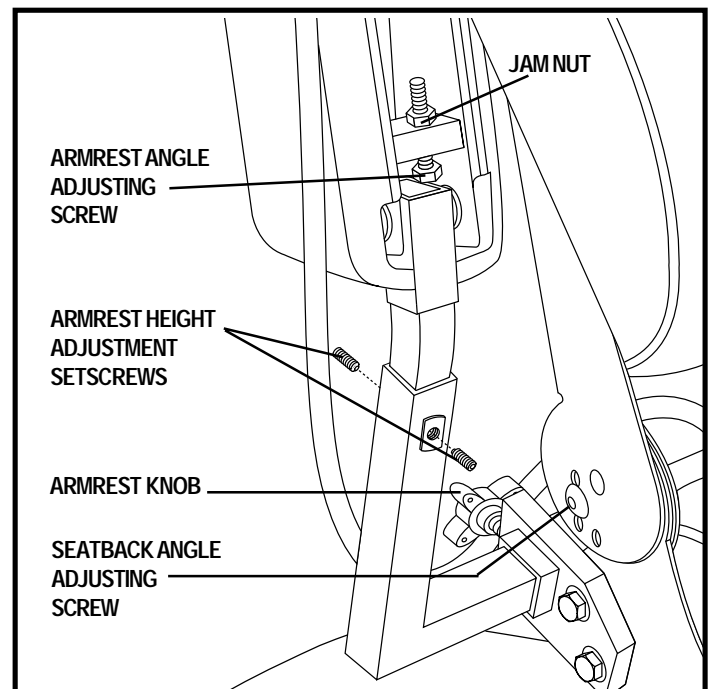

Figure 18. Seatback Angle Adjustment
1. Pull up on the seatback release lever. See figure 18.
1. Remove the adjusting screws from each seat hinge. See figure 18.
1. Locate the two armrest knobs on each side of the armrest receiver bracket. See figure 18.
1. Lift the armrest straight up so that it is perpendicular to the floor. See figure 18.